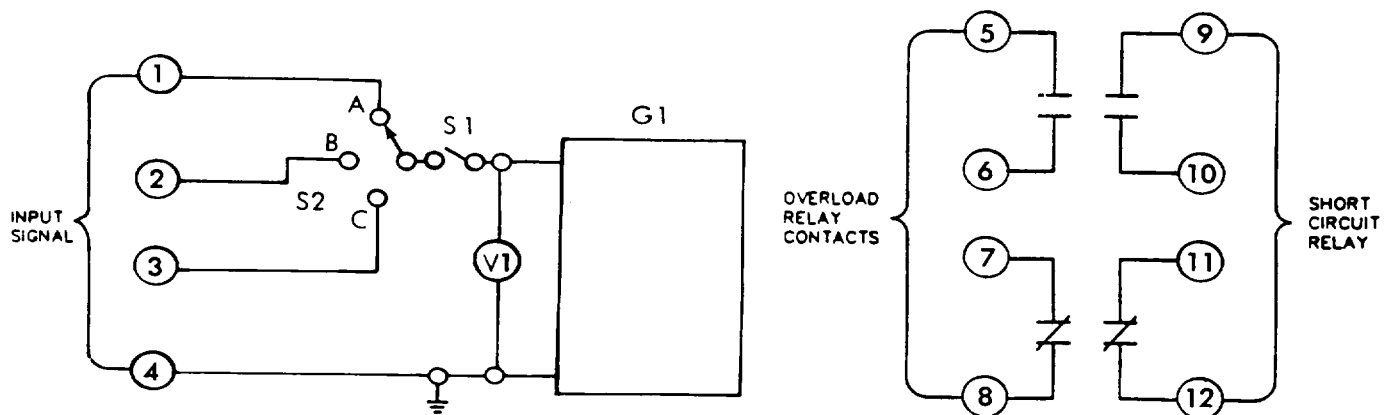

FIGURE 4-1. Test Circuit
- b. Install relay in test circuit shown in figure 4-1.